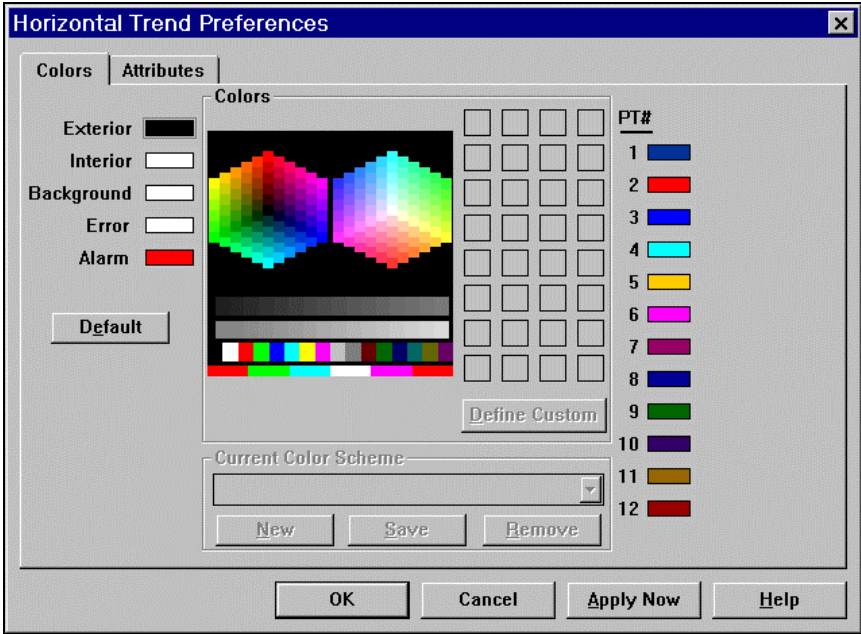

Figure 4 Trend Preferences
- Preferences—lets you globally customize settings for trends, XY plots, data tables, alarms, events, diagnostics. Customizable features include startup screen, trend colors, and user-defined tools. Figure 4.